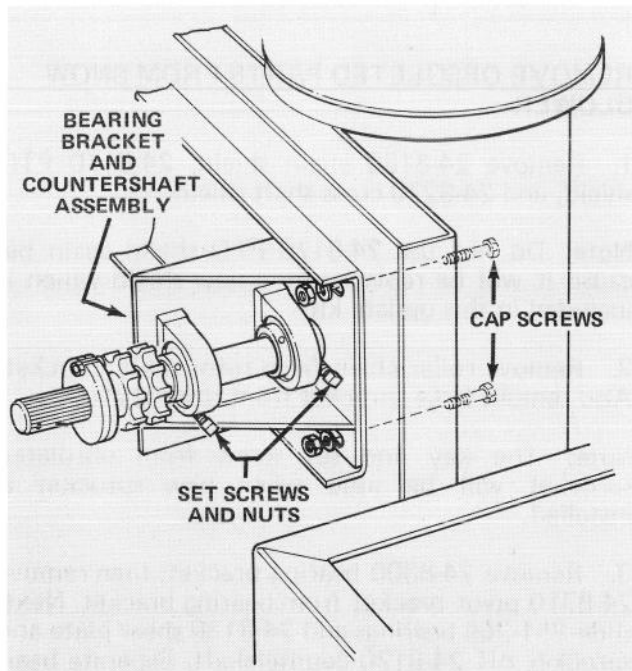

Figure 2
5. Install bearing bracket and countershaft parts against gear case mounting bracket with two new 323-7 cap screws, 3256-4 flat washers, 3253-21 lock washers, and 3217-7 nuts (Fig. 2). Tighten nuts snugly enough to hold bearing bracket in place. Bearing bracket must slide back and forth.
6. Thread a new 3217-7 nut completely onto both new 3243-12 set screws; then start set screws into bearing bracket (Fig. 2).
4. Secure bearing bracket against gear case mounting bracket by tightening the two lock nuts and cap screws (Fig. 2).